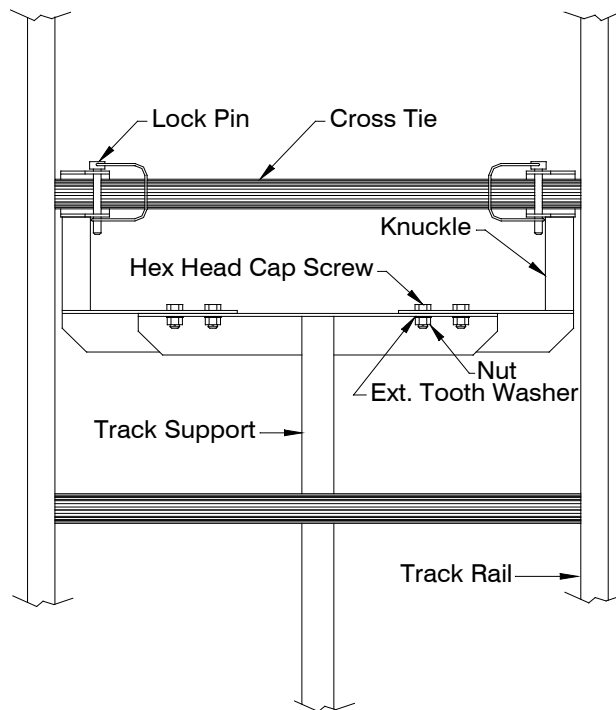

Figure 3-3.
1. Refer to Figure 3-3. Using the four 3/8 x 3/4" hex head cap screws, four 3/8" nuts, and four external tooth lock washers, securely fasten both the flanges and the knuckles of the support. Align the outermost pairs of mounting holes to make the knuckles flush with the end of the corresponding flange.
2. See Figure 3-3, & refer to Table 3-1 to determine the cross tie on which to mount the support. With the track installed in its operating position against the building, use a ladder to raise the track support and knuckle assembly to the selected track cross tie. Fasten the track support knuckles to the cross tie using the provided lock pins.